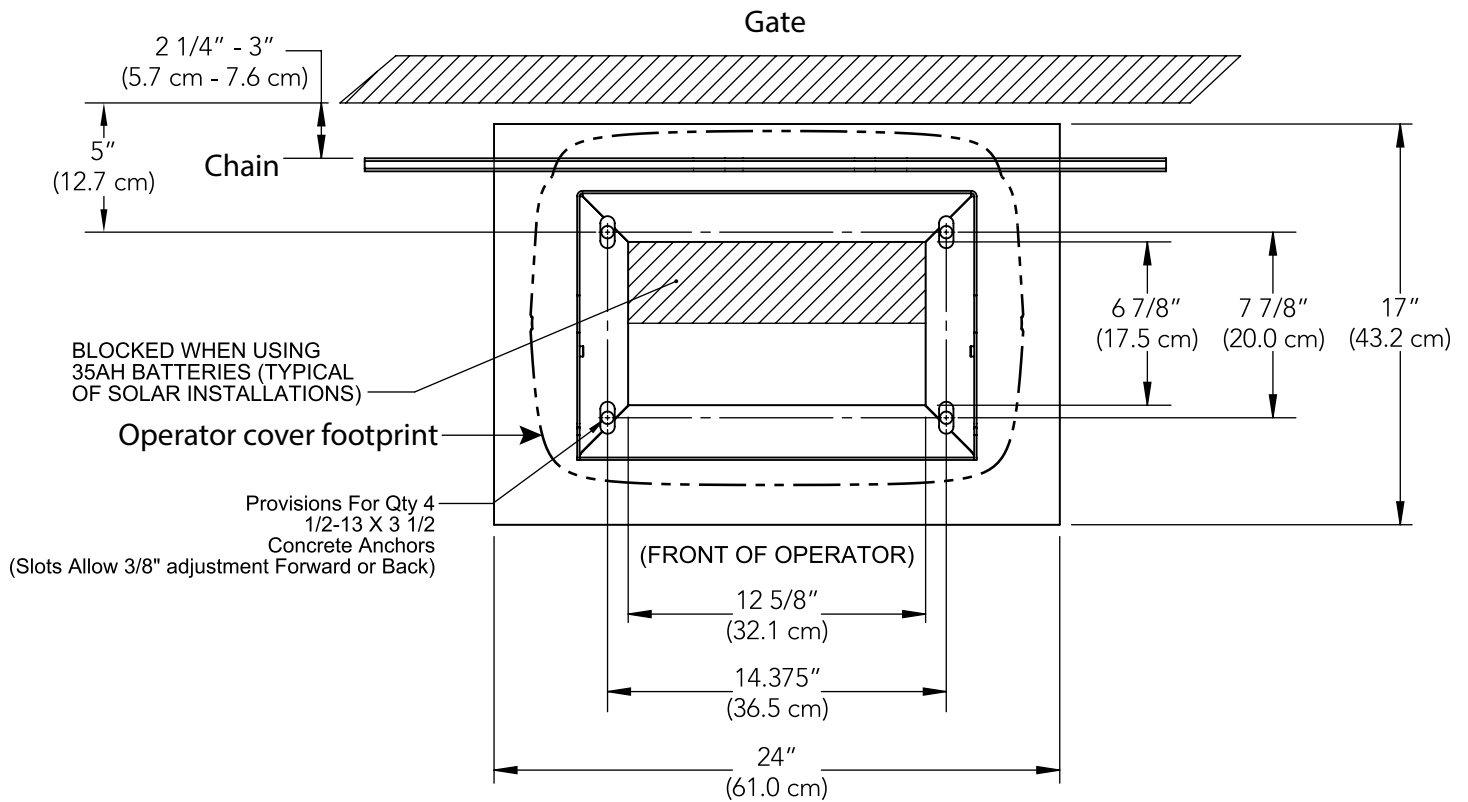
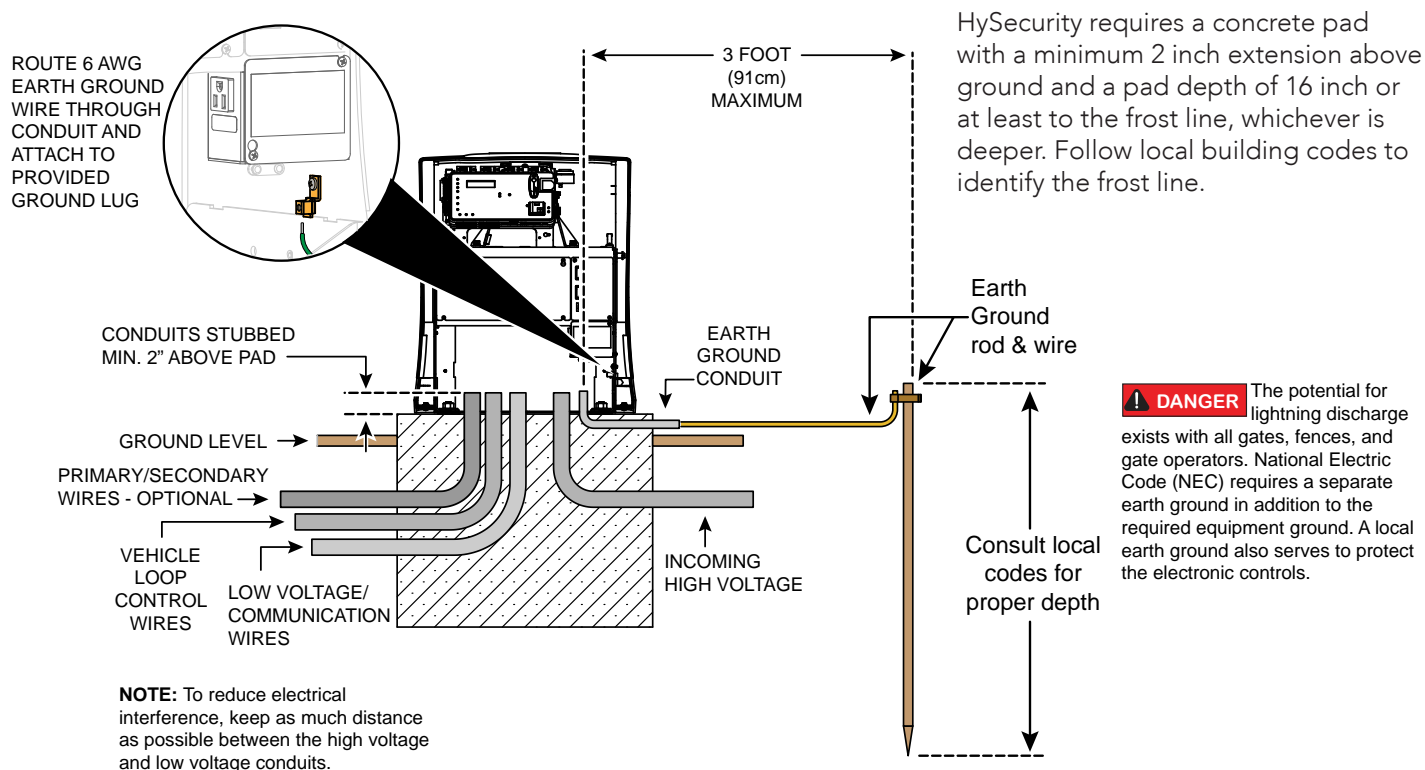

Figure 4. Concrete Pad, Anchor Hole, and Conduit Dimensions
Figure 6. Conduits and Earth Ground
2. Determine the location of the operator from the gate (Figure 4).
3. Refer to Figure 4 for minimum dimensions for a new concrete pad. Refer to Figure 6 for conduit and earth ground requirements.
4. Mark the anchor hole positions on the concrete pad (Figure 4).
4. Mark the new anchor locations (Figure 4).